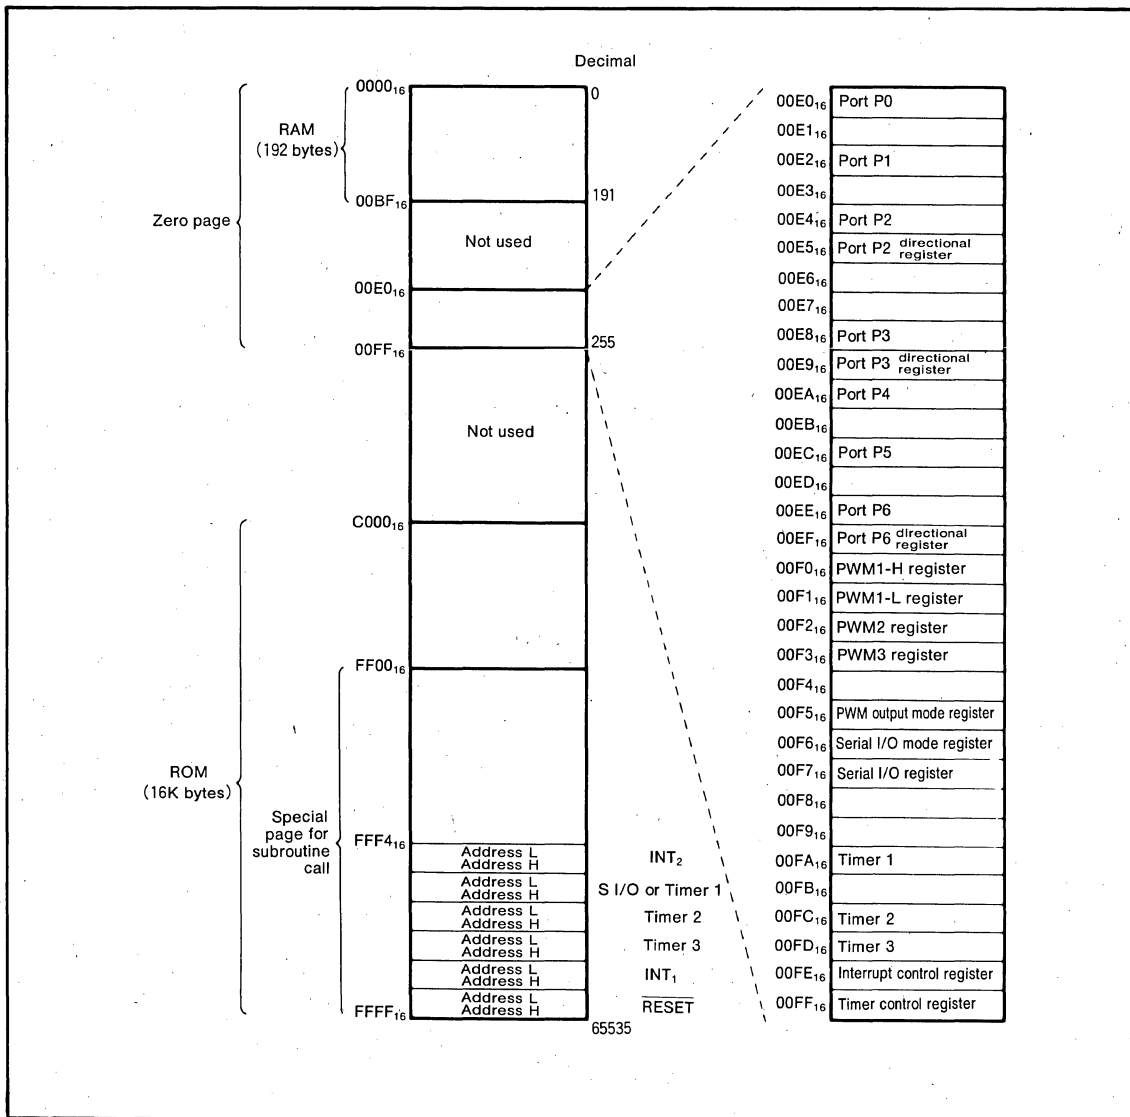

Fig.1 Memory map
The memory map is shown in Figure 1. The M50955-PGYS is mounted an EPROM instead of an internal ROM.
- (1) In case of the M5L2764K or the M5L27128K EPROM use the following areas (refer to Figure 1):